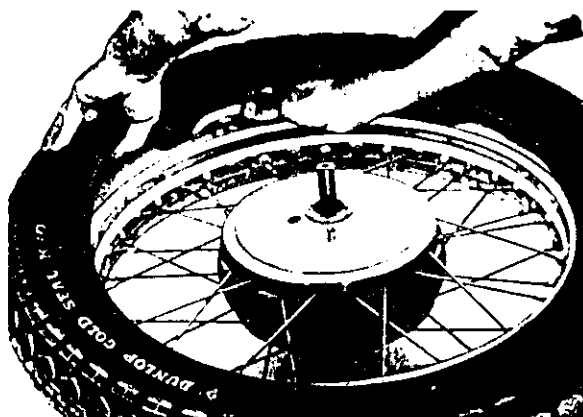
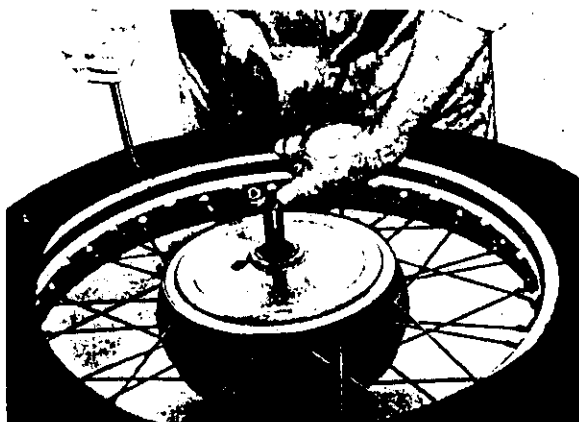

FIG. F.24. *Placing security bolt in position.*
FIG. F.25. *Refitting the second bead with the security bolt in position.*
- (1) Fit the rim tape.
- (2) Fit the first bead to the rim without the inner tube inside.
- (3) Assemble the security bolt into the rim, putting the nut on to the first few threads (see Fig. F.24).
- (4) Partly inflate the inner tube and fit it into the tyre.
- (5) Fit the second bead but keep the security bolt pressed well into the tyre as shown in Fig. F.25, and ensure that the inner tube does not become trapped at the edges.
- (6) Fit the valve stem nut and inflate the tyre.
- (7) Bounce the wheel several times at the point where the security bolt is fitted and then tighten the security bolt nut.